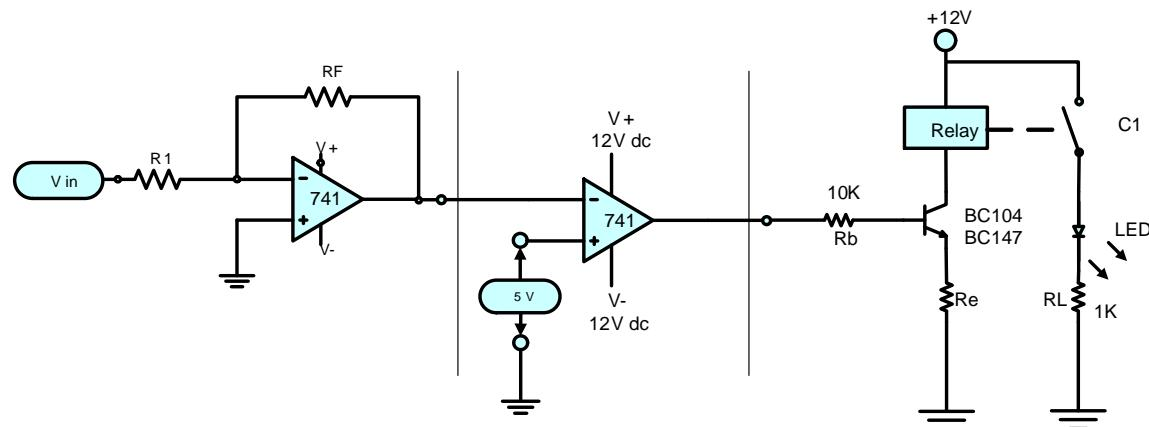

Figure 73
- On a breadboard, construct the circuit shown above (Figure 73).